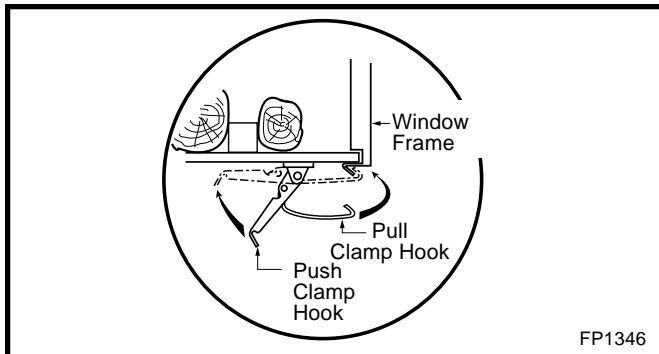

Fig. 31 RFSDV42 glass removal.
2. Open the two clamps (Fig. 31) underneath the Bay Window that holds the Bay Window Frame and Glass Frame.